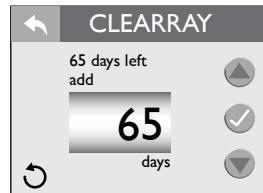

Figure 12.6c
1. From the “Water Care” Menu you can to set the CLEARRAY UV bulb timer, Figure 12.6c.